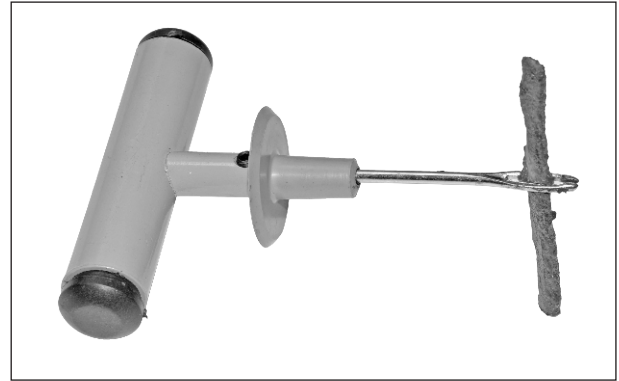

Fig. 6.99
- Take a cold mending strip and insert it between the strip holding jaws of strip inserting tool. (Fig. 6.99)
After inserting the strip, ensure that strip is held at the middle point of strip length. (Fig. 6.99)